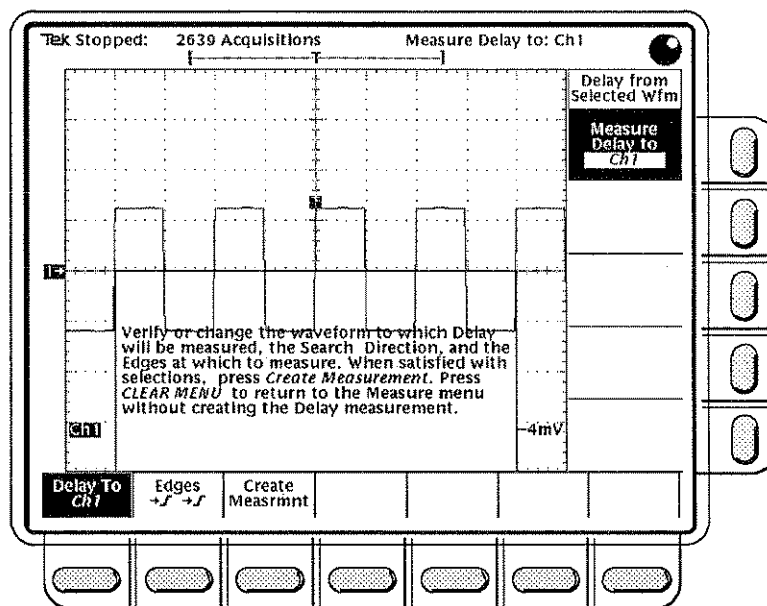

Figure 3-32: Measure Delay Menu – Delay To
The delay measurement measures from the selected waveform to another waveform, which you specify. When you select this measurement, the oscilloscope prompts you for further information by displaying the menu (Figure 3-32). This allows you to specify the parameters needed to complete the delay measurement.
- Step 1:** Press the Measure menu's **Delay** side menu button. This brings up the Measure Delay menu (Figure 3-32).
- Step 2:** On the Measure Delay menu, press the button below the main menu item called **Delay To**. It provides a side menu with one item: **Measure Delay to** (Figure 3-32). Press the side menu button repeatedly or turn the general purpose knob to choose the Delay to waveform. The choices are: **Ch1**, **Ch2**, **Ch3** and **Ch4** (on the TDS 540), **Ax1** and **Ax2** (on the TDS 520), **Math1**, **Math2**, **Math3**, **Ref1**, **Ref2**, **Ref3**, and **Ref4**.